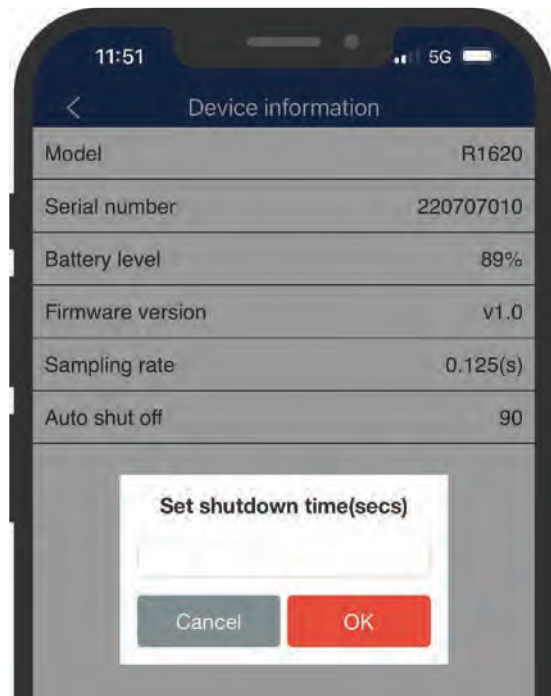

Figure 9
2. Enter "0" in the input box to disabled the auto shutoff feature or enter the required shutoff time. (Figure 9)